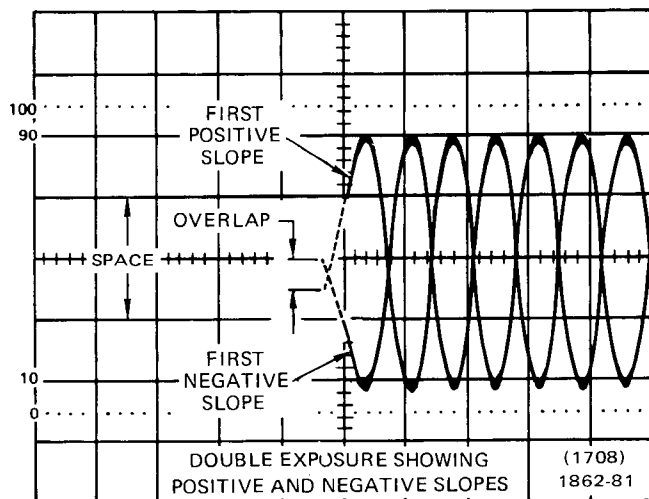

Fig. 6-3. Typical display when checking Trigger Symmetry.
l. CHECK—For a 0.5 division of overlap to 2 divisions of space between the start of negative slope and the start of positive slope. See Figure 6-3.
k. CHECK—For 0.5 division of overlap to 2 divisions of space between the start of negative slope and the start of positive slope. See Figure 6-3.